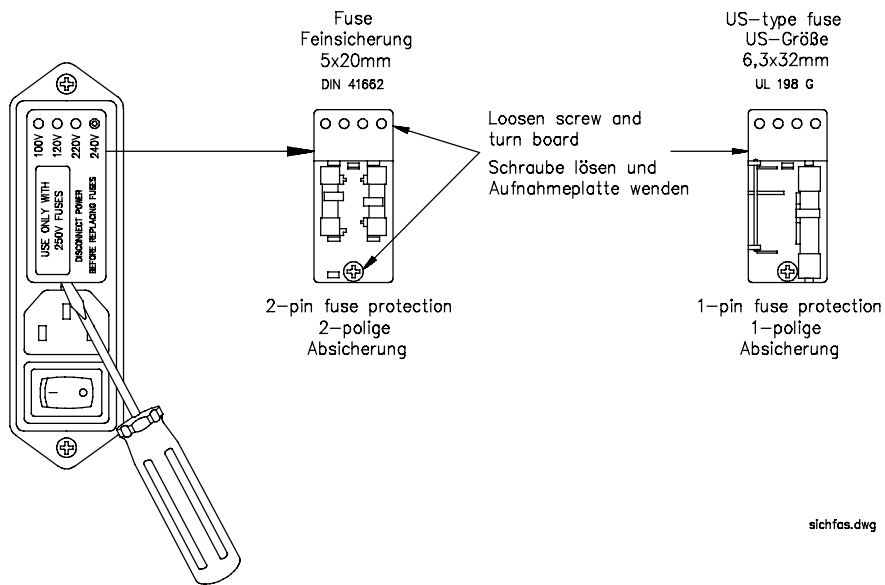

Fig. 1.: Removing the fuse cartridge from the power supply module
All units are generally factory set for operation at 230V. In the event that the mains supply varies from this, it is necessary to alter the setting of the voltage selector, located on the rear of the instrument, immediately above the mains socket (→ figs. 1 and 3). The alteration procedure is as follows:
- Draw out the fuse cartridge using a small screwdriver (→ fig. 1),
- draw out the fuse cartridge using a small screwdriver (→ fig. 1),
⚠ Important: Only use fuses as indicated in fig. 1 (min. voltage 250 V) or those listed in the original parts list.
- If using US-type fuses, follow the procedure shown in fig. 1.